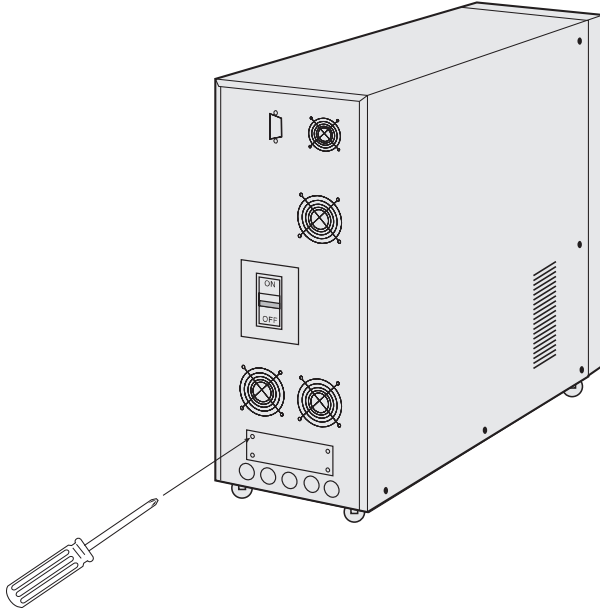

Figure 12
(1) Remove two screws with "+" screw-driver (Figure 12)